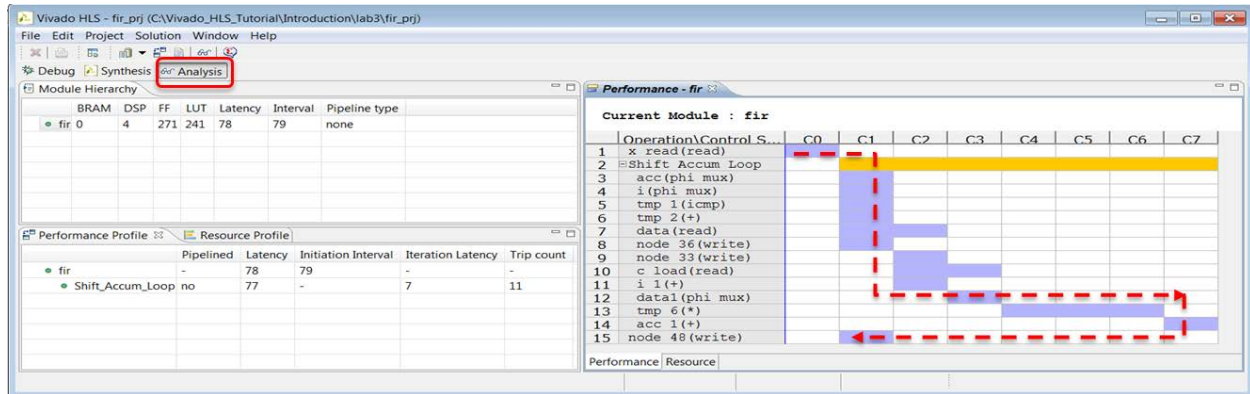

Figure 26: Solution2 Analysis Perspective: Performance
While still in `solution2`, and as shown in Figure 26:
- The red-dotted line in Figure 26 is used shortly in an explanation; it is not part of the view.
The explanation presented here follows the path of the dotted red line in **Figure 26**. Some of the objects here correlate directly with the C source code. Right-click the object to cross-reference with the C code.